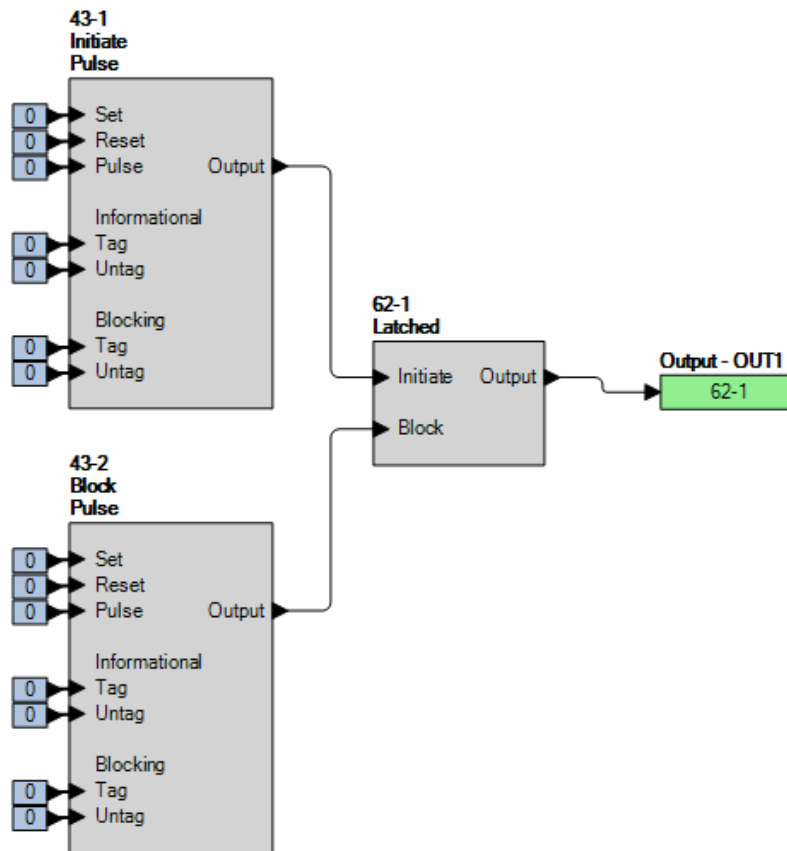

Figure 85-7. BESTlogicPlus Settings (Latched Mode)
Step 2: Use *BESTCOMSPi* to configure the *BESTlogicPi* programmable logic shown in Figure 85-7.